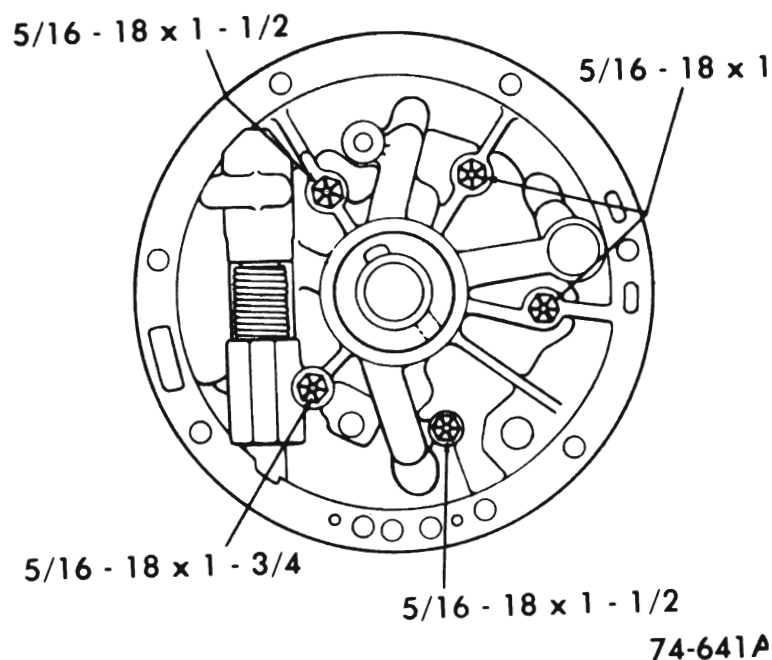

Figure 76-173
10. Install bolts as shown in Figure 76-173. Leave bolts one turn loose at this time.